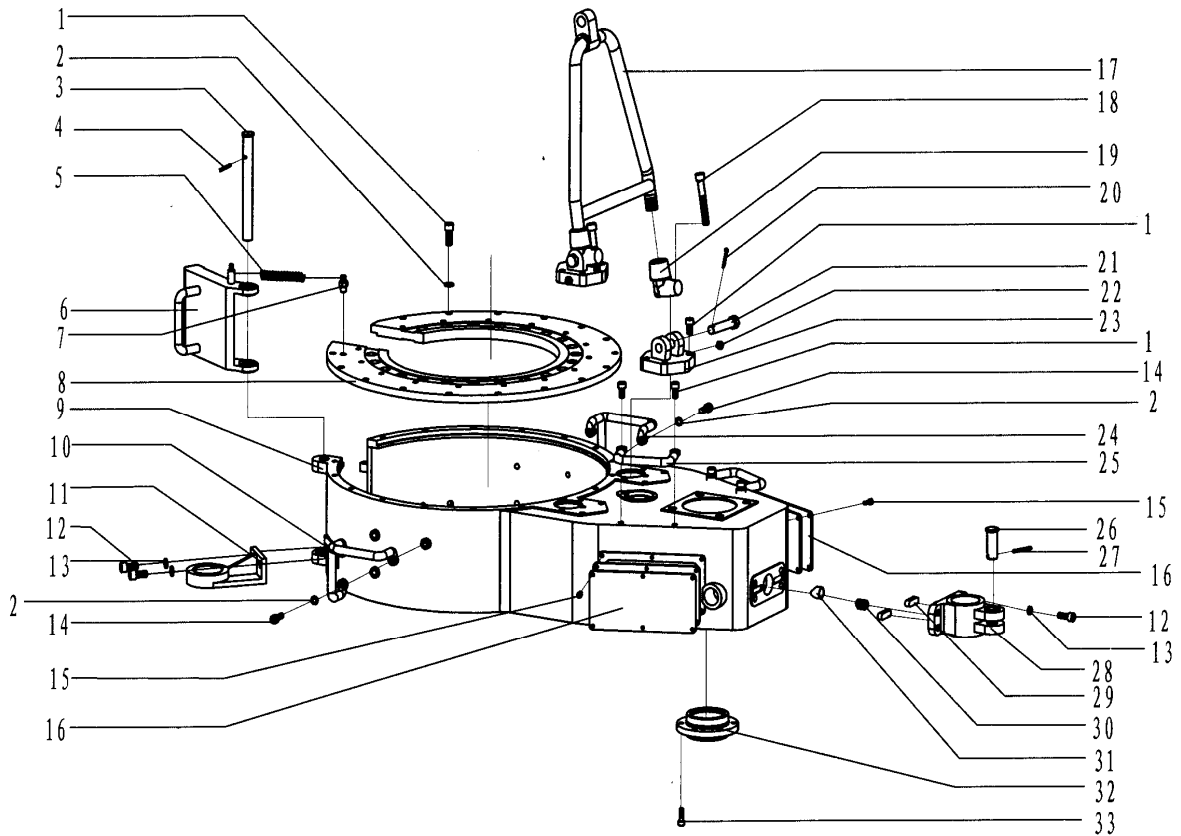

Fig3. Shell assembly and parts
7.2.1 Shell assembly and parts (Fig3. Table3)